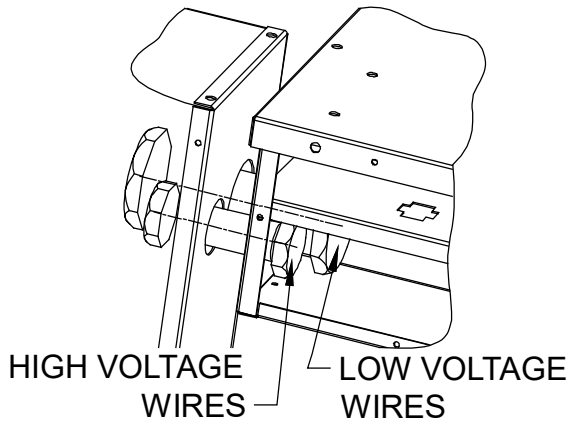

FIGURE 1
1. Secure the high voltage and low voltage conduits to the heat kit electrical panel using the supplied plastic bushing nuts as shown in Figure 1.